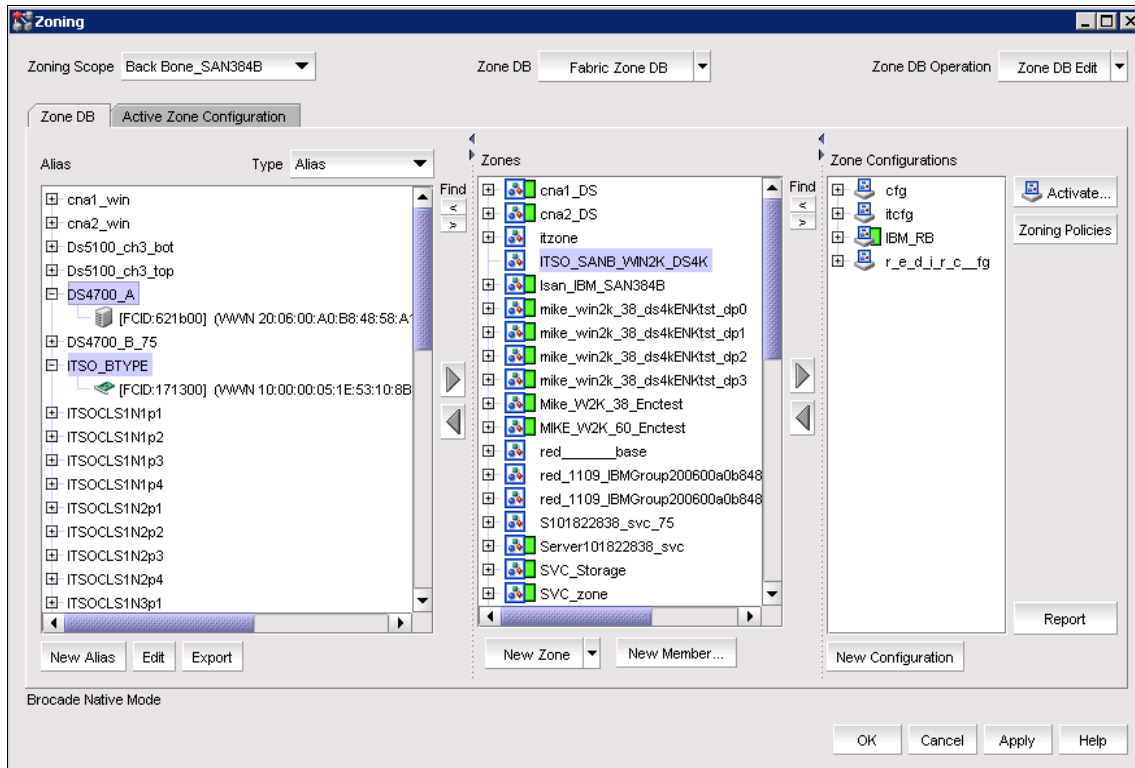

Figure 12-15 Move aliases to a zone
5. Now highlight the aliases that you want to have in the zone and move these aliases into the new zone by clicking the right arrow. See Figure 12-15.